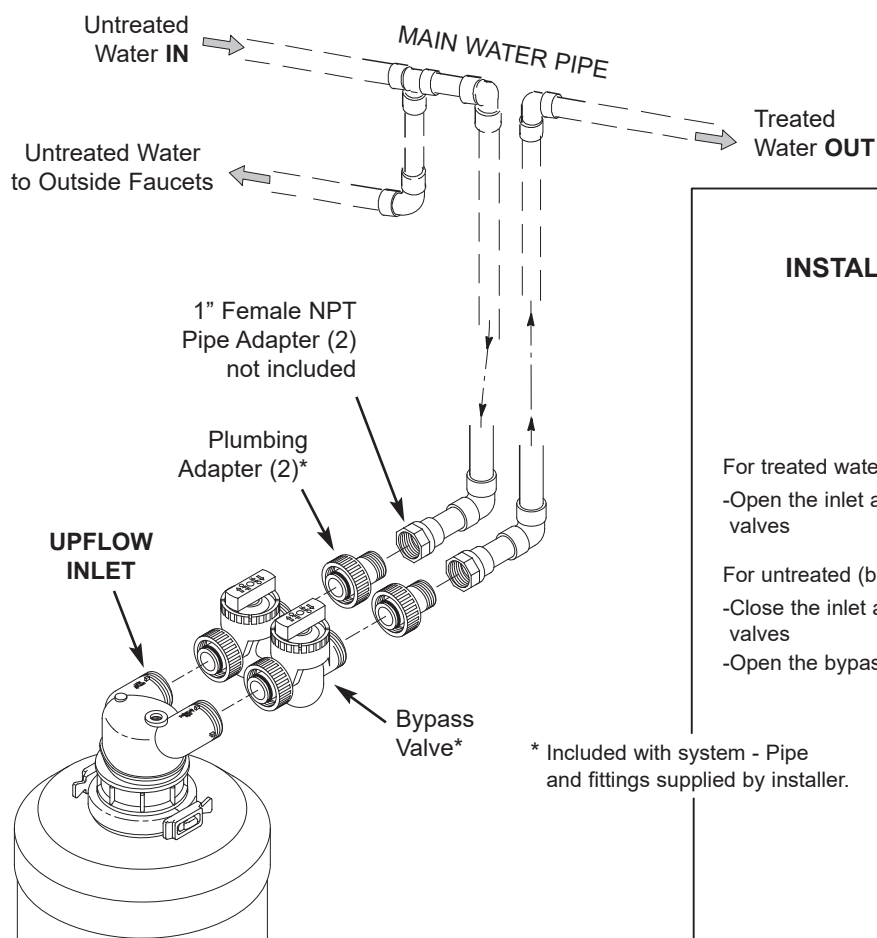

FIG. 3
- a. If installing a single bypass valve, thread the bypass valve, with lubricated o-ring seals in place, onto the head inlet and outlet ports (See Fig. 3). Tighten the collars by hand for a leak-tight seal.